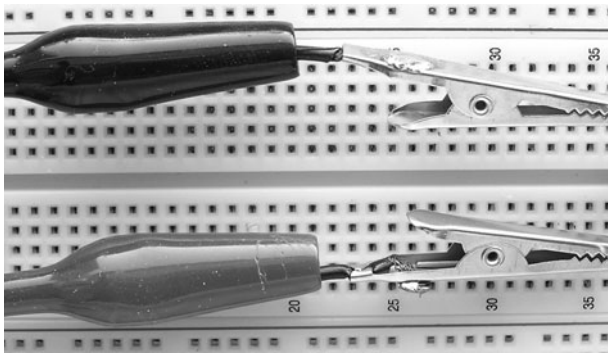

Figure L14-3
The following directions will get you to Figure L14-3:
6. Unplug it while you solder the clips onto each line. Figure L14-3 shows the finished product.